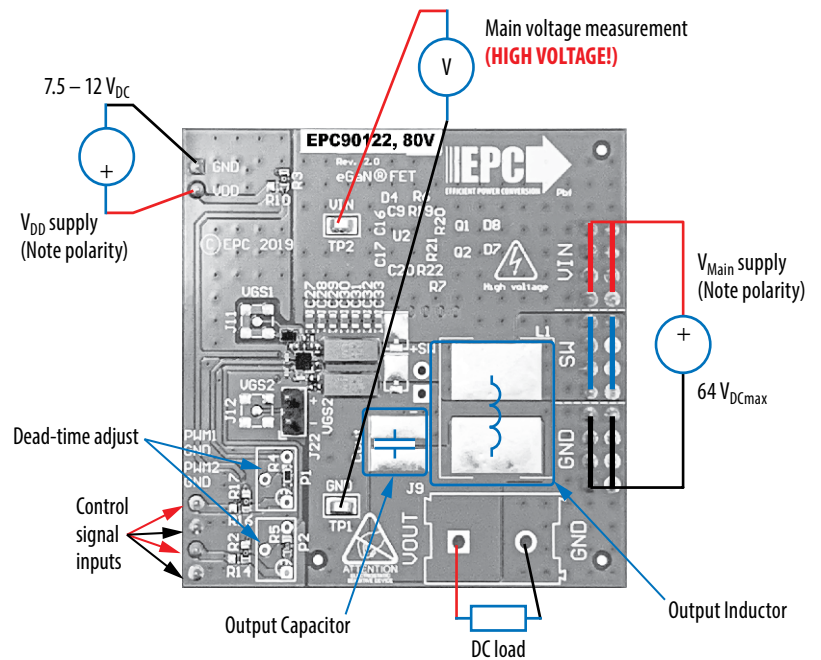
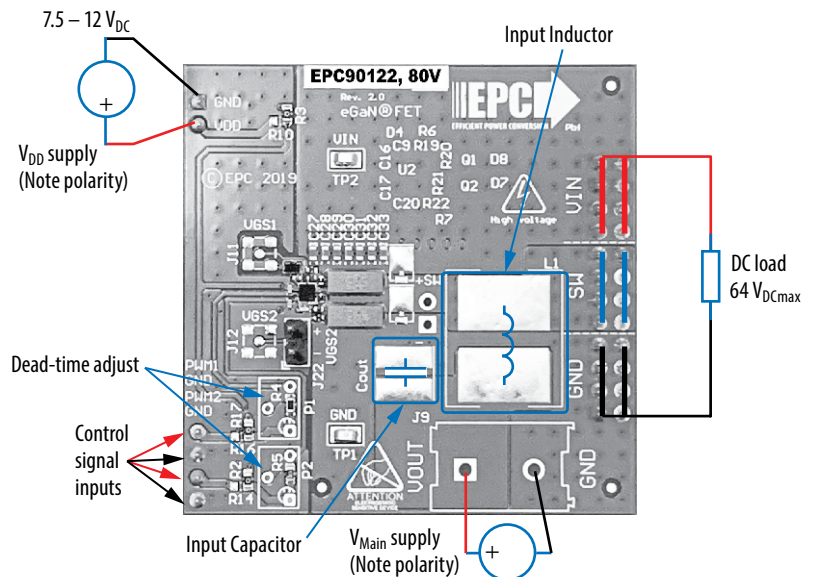

Figure 2: Buck configuration
Figure 3: Boost configuration
The half bridge development board EPC90122 is easy to set up as buck or boost converter. Refer to figure 2 for buck converter configuration and measurement setup, and figure 3 for boost converter setup, and follow the procedure below:
2. With power off, connect the switch node (SW) of the half bridge to your circuit as required (half bridge configuration). Or use the provided pads for inductor ( $L_1$ ) and output capacitors ( $C_{out}$ ), as shown in figure 2 with a DC load connected across  $V_{OUT}$  and GND.
1. The inductor ( $L_1$ ) and input capacitors (labeled as  $C_{out}$ ) can either be soldered onto the board, as shown in figure 3, or provided off board. Anti-parallel diodes can also be installed using the additional pads on the right side of the EPC2206 FETs.